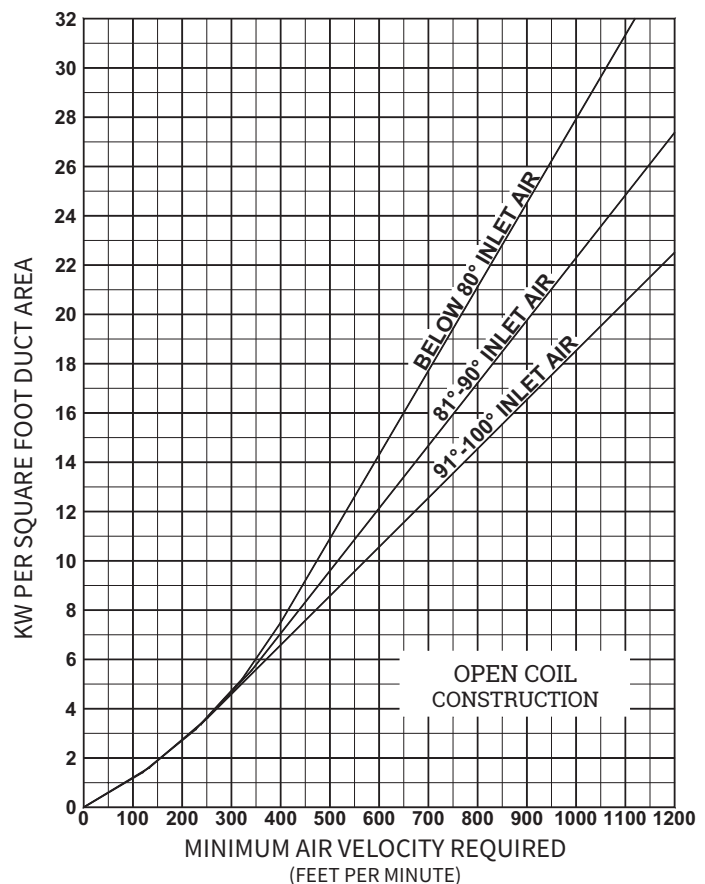

Figure 4B.
3. Go to Figure 4B. Use top curve (below 80°F inlet air). Find 5 KW per square foot on the vertical axis. Read minimum velocity required, which in this case is 310 feet per minute (FPM).